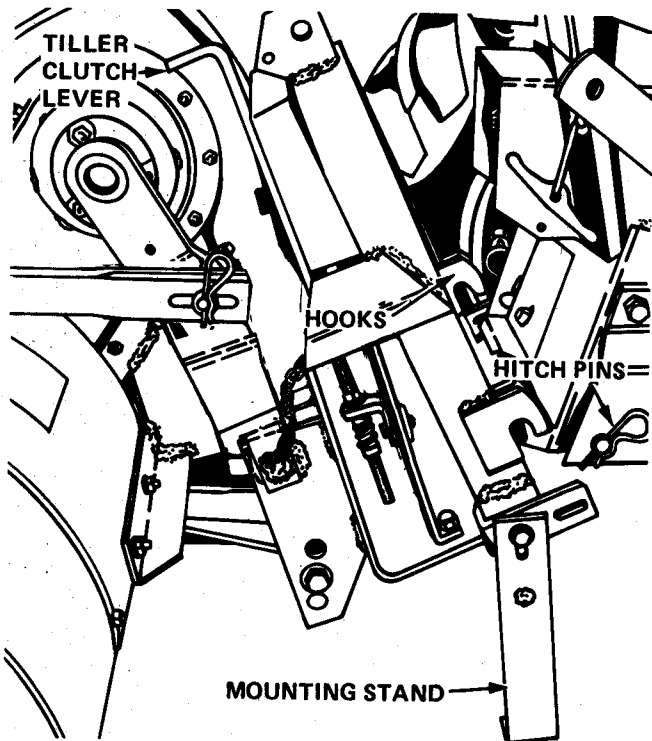
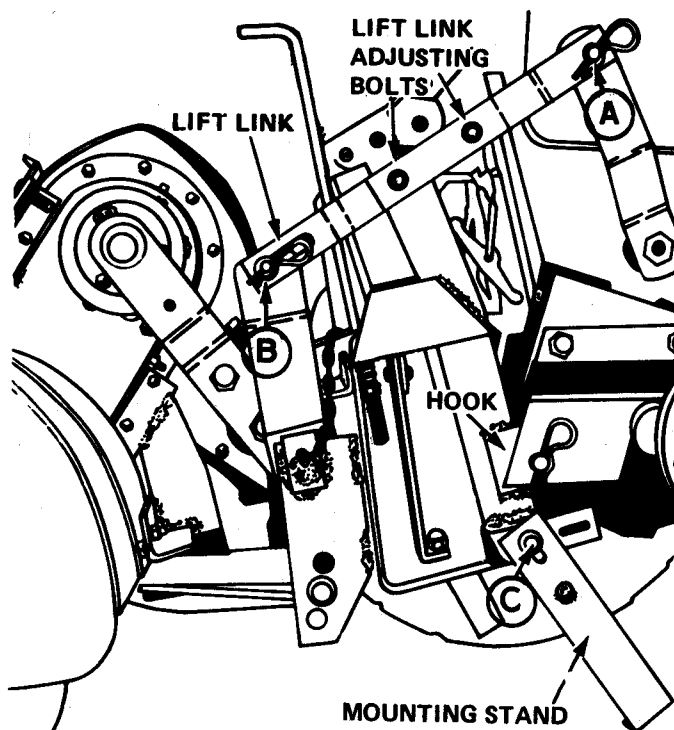

Figure 2
Figure 3
3. Lower the mounting stands as shown in Figure 2.
4. Engage tiller clutch lever, Figure 2.
4. Slowly back the tractor up to the tiller, being careful to align the hitch pins with the tiller attaching hooks, Figures 2 and 3. Continue backing the tractor until the hooks are secured to the tractor hitch pins and the mounting stands have been forced forward as shown in Figure 3. **NOTE: The attaching hooks must**
be high enough to clear the tractor hitch pins. If hooks do not clear the pins when tractor is backed up, loosen bolts C, Figure 3, each side and move the mounting stands down in the slotted holes as required. Tighten bolts C.
5. Start the tractor and move the lift lever to the down position until the rock shaft arms are completely lowered. Attach lift link to the right hand tractor rock shaft arm with a drilled rivet and hairpin cotter at A, Figure 3. Secure lift link to the lift link support with a
3. Turn engine off. Disconnect the lift link from tractor rock shaft arm at A, Figure 3.
5. Rotate the mounting stands down, Figure 2, start engine and slowly drive the tractor forward. The mounting stands will cause the tiller to raise, disengaging the hooks from the tractor hitch pins.